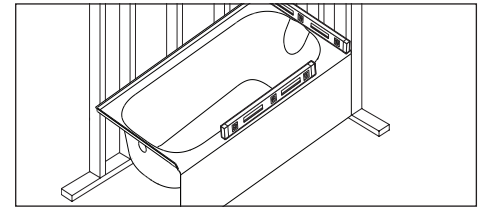

FIGURE 2. Check to assure bathtub is level.
- Trial fit bathtub in prepared alcove. With bathtub sitting flat on floor, check with level on top of bathtub (Fig 2).